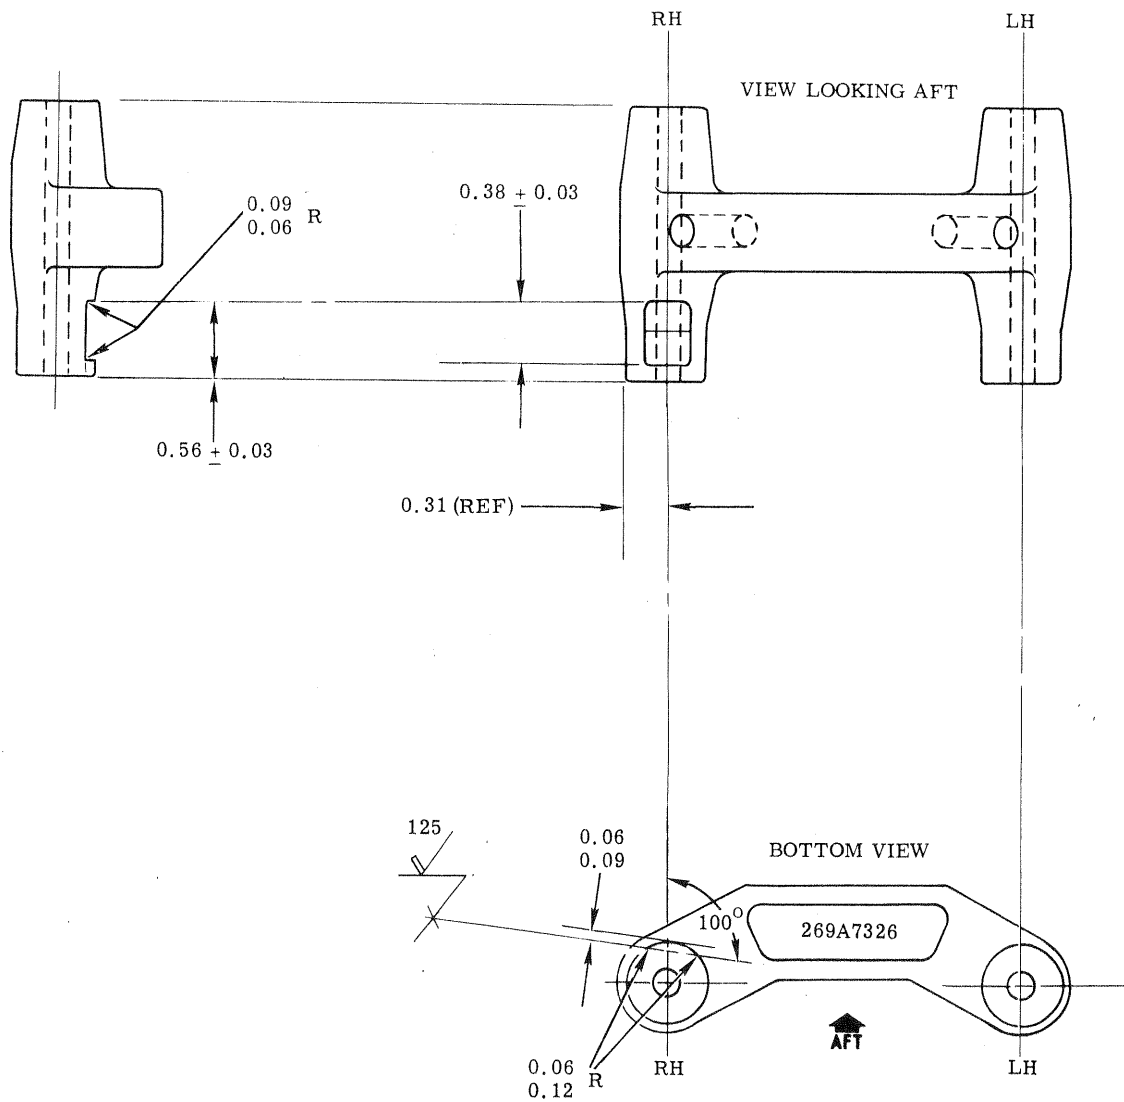

Figure 1. Rework - Tail Rotor Control Stop, P/N 269A7326
c. Using rattail file or equivalent, remove material from control stop at localized area shown in Figure 1; remove sufficient material (up to maximum allowed) to eliminate interference or chafing.